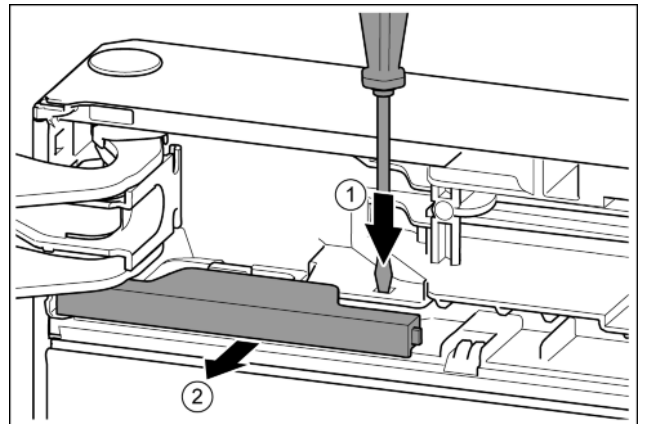

Fig. 9
- ▶ Press the tab with the slotted screwdriver. Fig. 9 (1)
- ▶ Pull cover out of the catch mechanism. Fig. 9 (2)